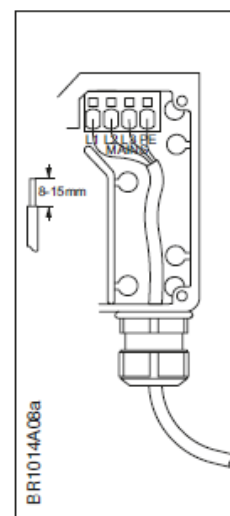

Fig. 3-12.1
- With 3-phase NI-DV units, connect the power cable to the terminals marked "L1", "L2", "L3" and "PE". See fig. 3-12.1. On 1-phase NI-DV units, the terminals are marked "L", "N" and "PE". See fig. 3-12.